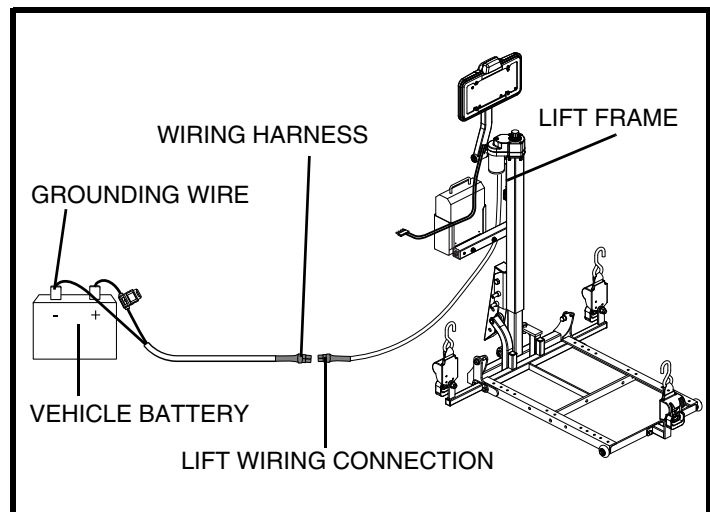

Figure 8. Wiring Harness Installation
1. Route the lift system wiring harness (starting at the lift) through the interior of the vehicle until you reach the vehicle battery. **See figure 8.** You will typically find pass-through points at the rear lighting assemblies, which will enable you to route the cable through the trunk and under the back seat.